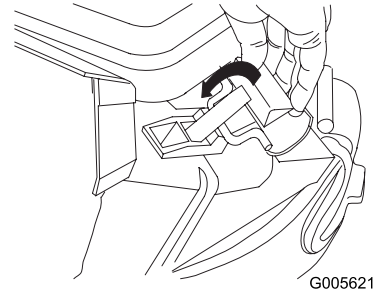

Figure 25
4. Pull the handle rearward until the latch locks into the notch in the bag door latch (Figure 25).